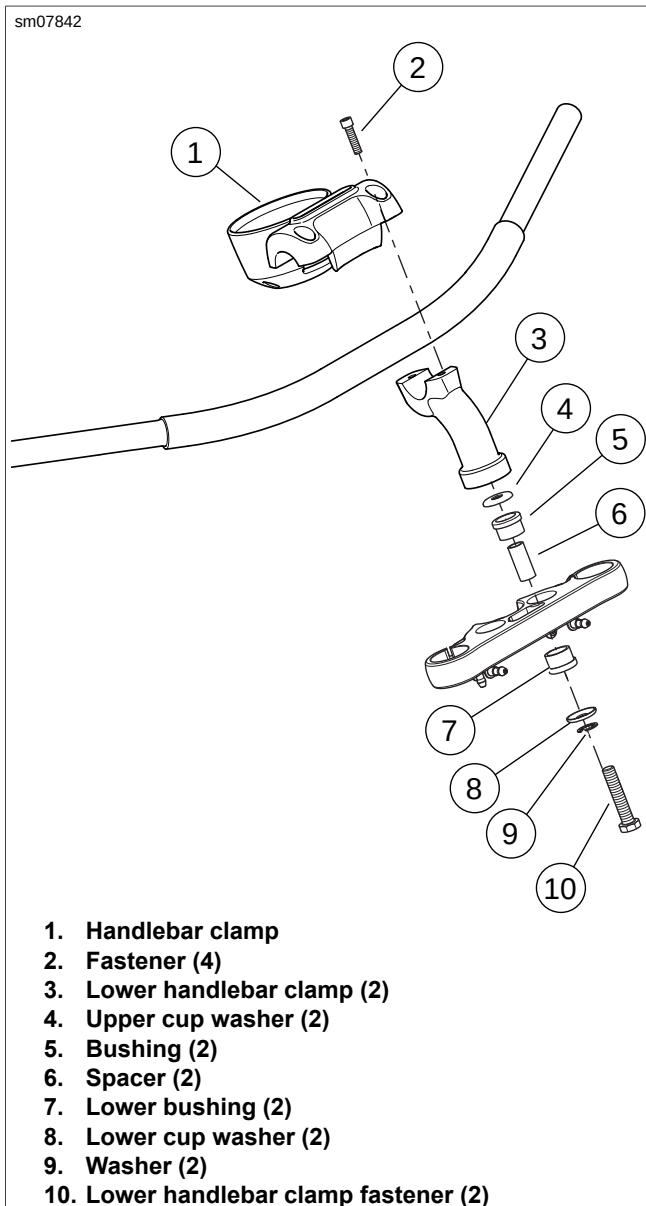

Figure 2-99. Handlebar Assembly
9. See Figure 2-99. Remove upper handlebar clamp fasteners (2).
1. See Figure 2-99. Remove two lower handlebar clamp fasteners (10), washers (9), cup washers (8) and lower bushings (7).
2. Remove lower handlebar clamps (3).
3. Remove upper spacers (6), bushings (5) and upper cup washers (4).
1. See Figure 2-99. Install lower bushings (7), spacers (6), upper bushings (5) and upper cup washers (4) in upper fork bracket.
2. Install washers (9) and lower cup washers (8) on lower handlebar clamp fasteners (10).
2. See Figure 2-99. Install upper handlebar clamp (1). Install but do not tighten clamp fasteners (2).